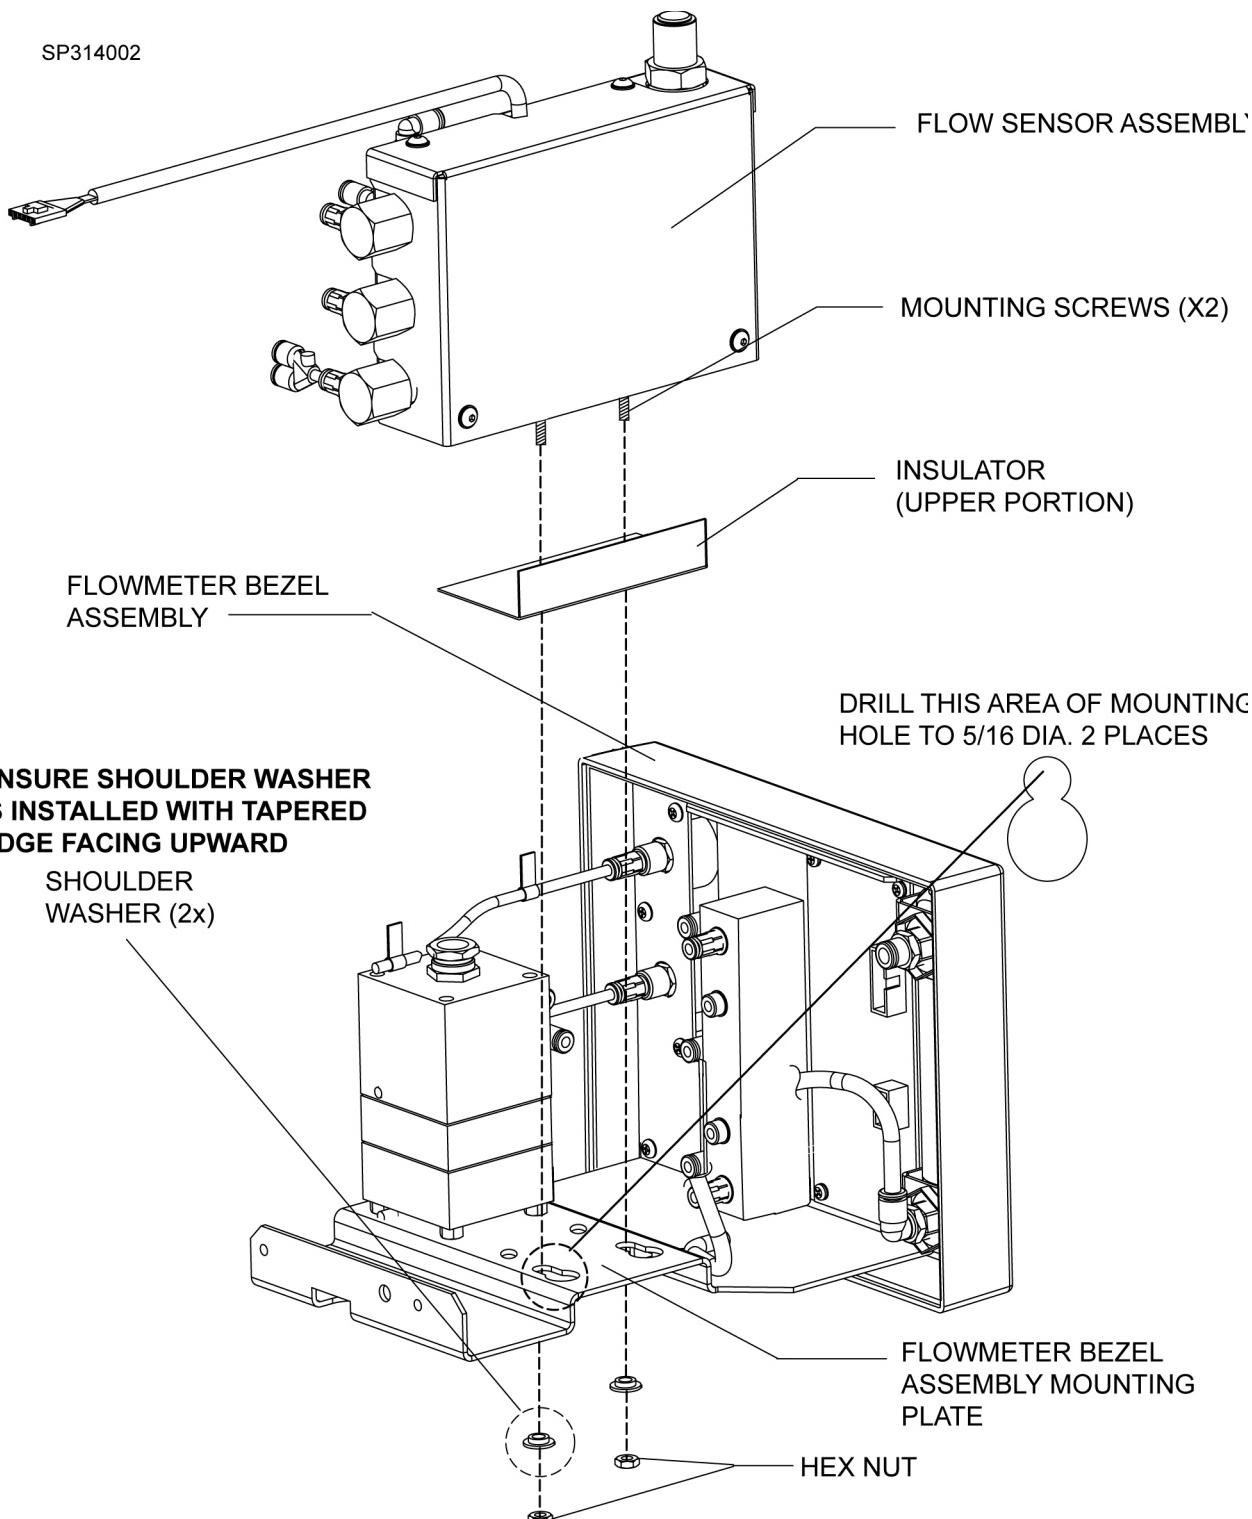

Fig. 5 Isolator Installation
1. Disassemble the Flow Sensor Assembly from the Flowmeter Bezel Assembly Mounting Plate by removing the two washers and two nuts located on the underside of the mounting plate. Discard the existing washers and nuts. Refer to Fig. 5.
4. Using a 5/16 drill bit, drill the two Flow Sensor Assembly mounting holes to 5/16 Dia. Refer to Fig. 5 for exact location.
6. Place the insulator provided in the kit between the Flowmeter Bezel Assembly Mounting Plate and the Flow Sensor Assembly. Position the isolator so that the hole pattern is aligned with the mounting screws located on the bottom of the Flow Sensor Assembly. Ensure that the upper portion of the isolator is located on the outside edge of the Flow Sensor Assembly. Refer to Fig. 5 for correct installation positioning.
Ensure that the shoulder washers are installed with the tapered edge in the upward position. Refer to Fig. 5 for an illustration showing proper orientation.
8. Install the supplied shoulder washers and hex nuts on the mounting screws through bottom of the Flowmeter Bezel Assembly Mounting Plate as shown in Fig. 5.